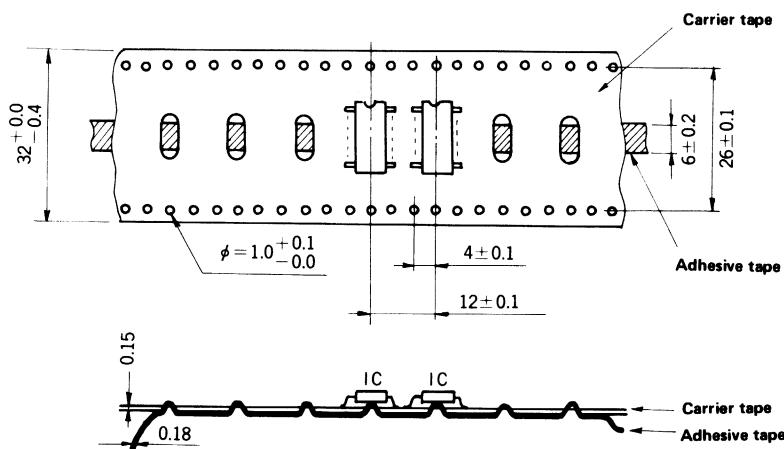

Fig. 2 Taping
- (1) Tape shape and dimensions (Fig. 2)